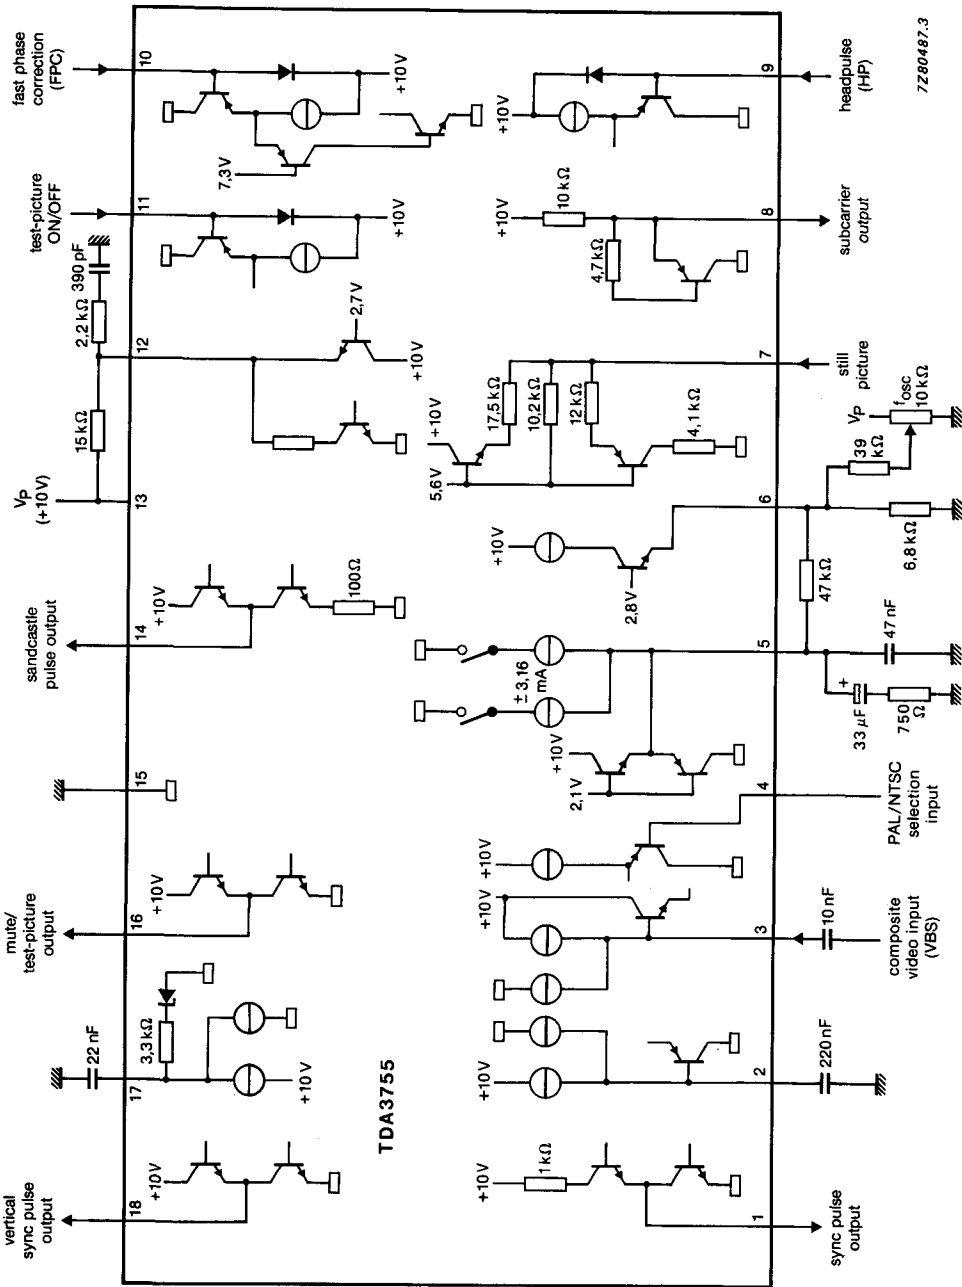

Fig. 4 Application circuit diagram.
$V_p = 10\text{ V}$ ;  $T_{amb} = 25\text{ }^\circ\text{C}$ ; measured in Fig. 4; unless otherwise specified
10. The timing of the upper part of the sandcastle pulse is determined by the components connected to pin 12 (Fig. 4) and is independent of supply voltage variations.